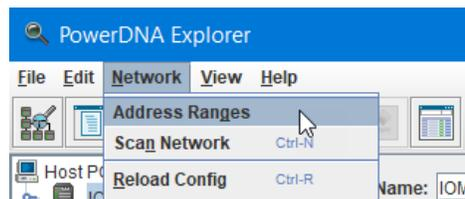

Figure 3-5 View Address Ranges
- Navigate to **Network » Address Ranges** in the PowerDNA Explorer menu (**Figure 3-5**).